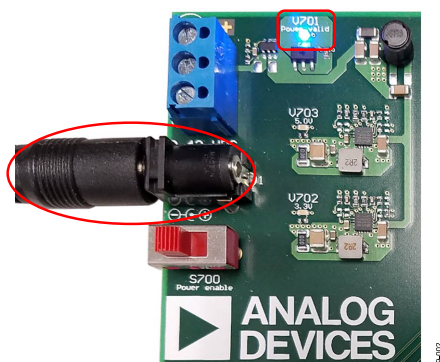

Figure 2. Power Cable Connection and Power Valid LED
1. Plug the provided AC adapter into the wall socket, and connect the barrel connector of the AC adapter to the baseboard, as shown in Figure 2. The Power Valid LED illuminates blue. At this point, the evaluation board is powered.